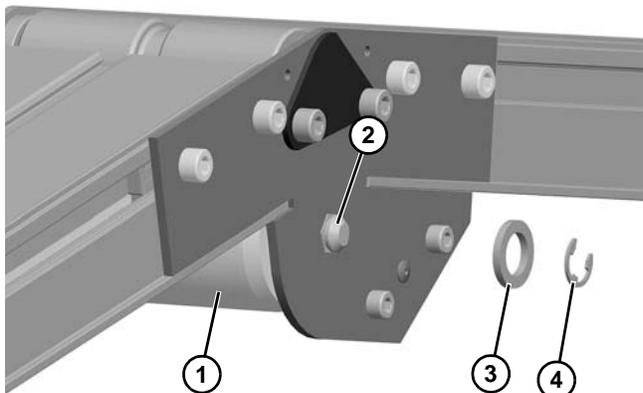

Figure 82
- a. For 2" (44 mm) through 4" (95 mm) wide conveyors, install pulley (**Figure 82, item 1**) and pulley shaft (**Figure 82, item 2**). Install washer (**Figure 82, item 3**) and E-ring clip (**Figure 82, item 4**) on one side.